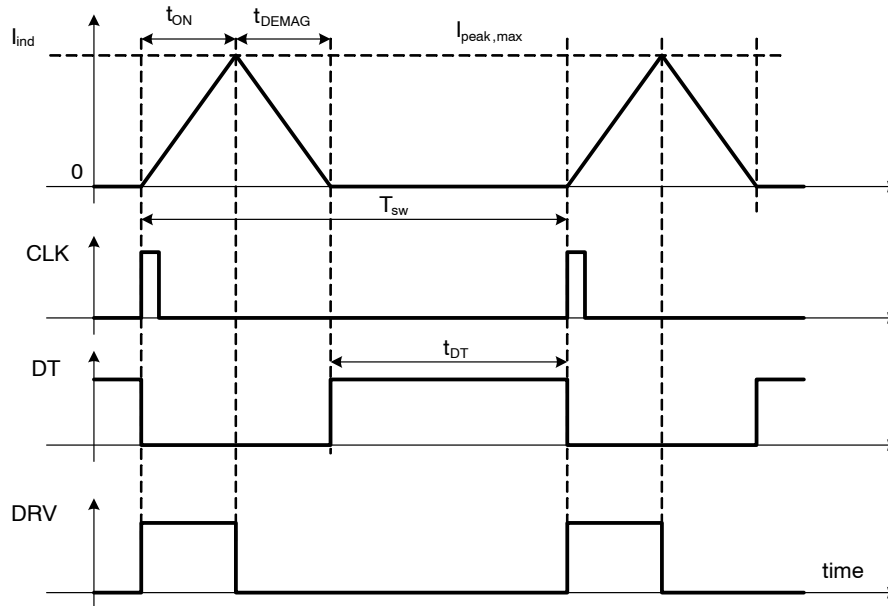

Figure 32. NCP1602 Clock, Dead Time and t_{ON} Waveforms
The Frequency Foldback (FF) system adjusts the on-time versus t_{DT} (see Figure 32) and the output power in order to ensure that the instantaneous mains current is in phase with the mains instantaneous voltage (creating a PF=1).